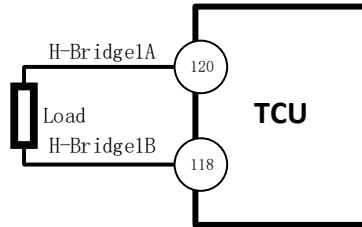

Figure 10 H-bridge working schematic
7. TCU should be installed in the horizontal and vertical position according to the connector downwards and maintain a certain angle to prevent water from entering the connector. In the horizontal direction, the recommended installation angle is -170° to -10° , as shown in Figure 10 below. In the vertical direction, the recommended installation angle is -170° to -10° , as shown in Figure 11 below.